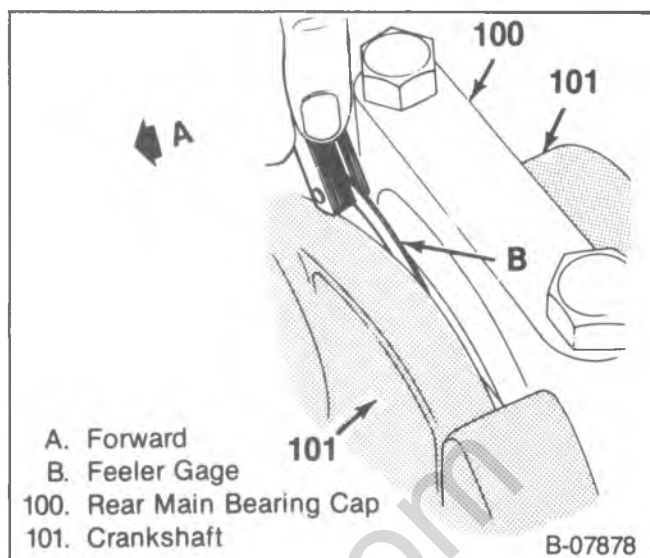

Figure 34—Measuring Crankshaft End Play
- With the crankshaft forced forward, measure at the front end of the rear main bearing with a feeler gage (figure 34). The proper clearance is 0.002-0.006-inch.